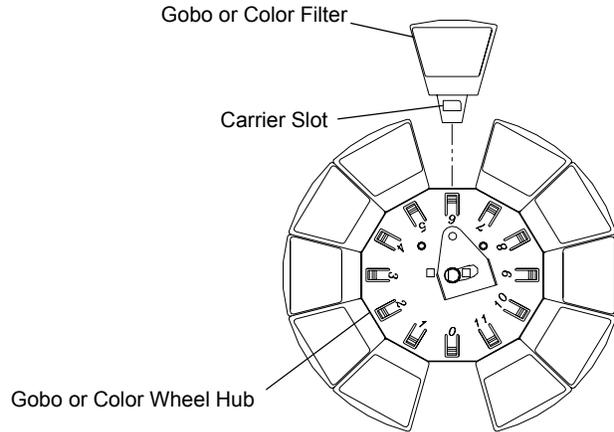

Figure 4-4: Replacing a Standard Gobo or Color Filter
Step 5. Using fingers, grasp frame of gobo or color filter and pull out of wheel hub (**Figure 4-4.**)